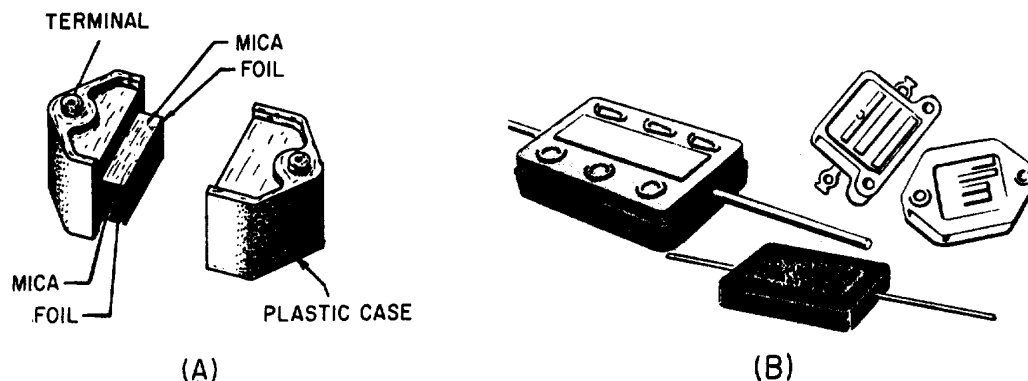

Figure 3-16.—Typical mica capacitors.
A MICA CAPACITOR is made of metal foil plates that are separated by sheets of mica (the dielectric). The whole assembly is encased in molded plastic. Figure 3-16(A) shows a cut-away view of a mica capacitor. Because the capacitor parts are molded into a plastic case, corrosion and damage to the plates and dielectric are prevented. In addition, the molded plastic case makes the capacitor mechanically stronger. Various types of terminals are used on mica capacitors to connect them into circuits. These terminals are also molded into the plastic case.
Mica is an excellent dielectric and can withstand a higher voltage than can a paper dielectric of the same thickness. Common values of mica capacitors range from approximately 50 picofarads to 0.02 microfarad. Some different shapes of mica capacitors are shown in figure 3-16(B).